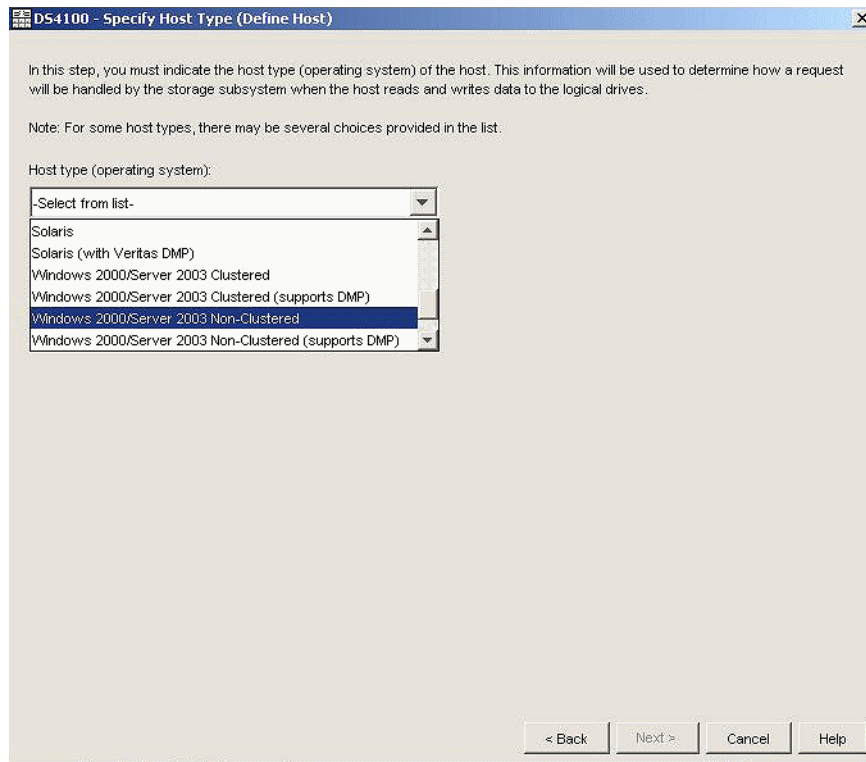

Figure 9-50 Specify Host Type (Define Host) window
19. In the Alias field, specify an alias for mapping. In our example, we typed BLADE4WINDOWS. Click **OK** to continue. You will see a window similar to Figure 9-50.